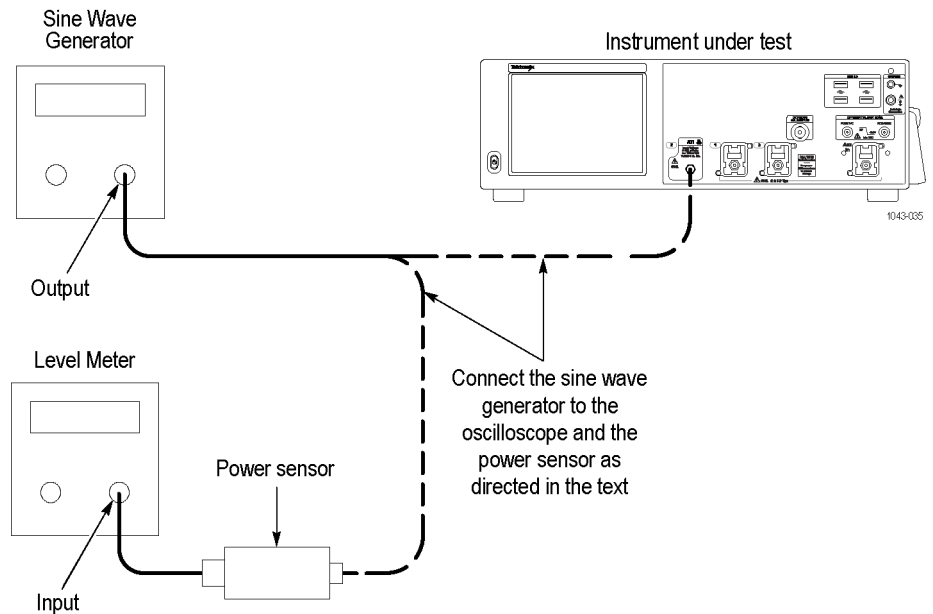

Figure 18: Channel bandwidth test hookup
- b. *Hook up the test-signal source:* Connect the sine wave output of the sine wave generator to **Ch 2**. Set the output of the generator to a reference frequency of 100 MHz. (See *Figure 18: Channel bandwidth test hookup* on page 117.)